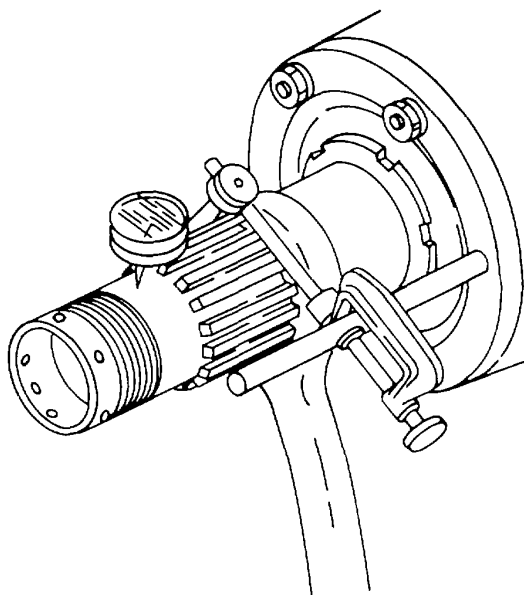
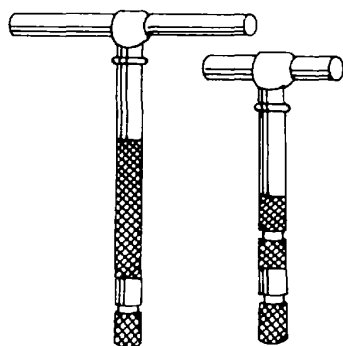

Figure 3-76. Checking Propeller Shaft Run Out
Figure 3-77. Telescoping Gauges
- (1) Remove propeller.
- (2) Remove one of the nuts securing thrust bearing cap to reduction gear assembly and install a reversible type dial indicator on the long stud from which the nut was removed (see figure 3-76).
- (3) Adjust dial indicator so that arm point is on propeller shaft at front cone location.
- (4) Rotate propeller shaft and note total indicator movement. The maximum allowable runout at front cone location is found in the applicable aircraft maintenance manual.
- (5) Adjust dial indicator so that arm point is on propeller shaft rear cone location.
- (6) Rotate propeller shaft and note total indicator movement. The maximum allowable runout at rear cone location is found in the applicable aircraft maintenance manual.
**3-21. Telescoping Gauges.** Telescoping gauges, shown in figure 3-77, are used for measuring the inside size of slots or holes up to 6 inches in width or diameter. They are T-shaped tools in which the shaft of the T is used as a handle, and the crossarm used for measuring. The crossarms telescope into each other and are held out by a light spring.